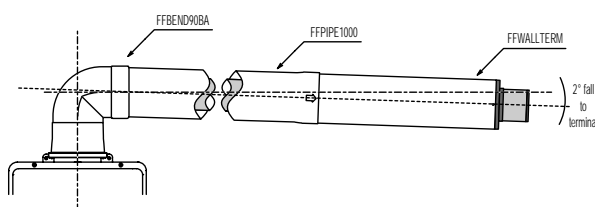

Fig.2
Horizontal extended flueing with adapter, flue pipe and wall terminal (**Fig.2**).
6. From outside the building, fit the external wall plate to the flue terminal and place through the hole in the wall **(Fig. 2)**. Connect the terminal onto the 90° adaptor bend. Ensure the wall terminal pushes 'fully home' into the adaptor. The arrow on the side of the bend will face the in the direction of discharge.
7. To prevent rain water from entering the flue terminal ensure the required 2° fall to outside is achieved **(Fig.2)**.
1. This option **(Fig.2)** can be used when the water heater is mounted against an internal wall and flueing needs to extend horizontally to exit an external wall. The Rinnai Infinity 'Direct Flueing components' must be used for this purpose, together with extension pieces & bends as required. **Total flue length can be up to 9 metres long & a maximum of 3 bends can be used.**
2. Dimensions of water heater with 90° bend adaptor connected are as shown in **(Fig. 2 & 7)** When the flue tracks horizontally, it should be installed to have a 2° fall towards the wall terminal to prevent condensation running back into the water heater as shown. Ensure there is enough space to install the Infinity, flue assembly and plumbing pipe work. Ensure that positioning of the flue terminal complies with the requirements of AS5601/AG601 **Clause 5.13.6.2 / Fig.5.3 page 10**.